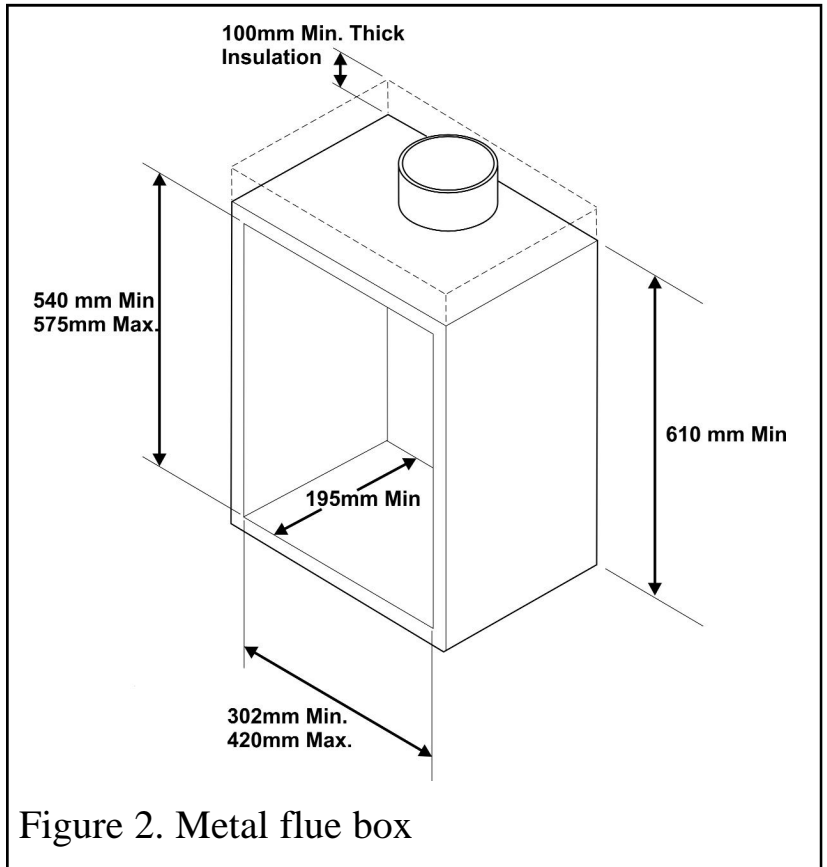

Figure 2. Metal flue box
3.2.2 To a fireplace incorporating a metal flue box conforming to BS715 with a minimum internal depth of 195mm. Incombustible mineral wool insulation of not less than 100mm thickness must be applied to the top surface of the firebox (See figure 2) and it must stand on a non-combustible hearth (See figure 1).
The whole of the top surface of the metal flue box must be covered with a minimum 100mm layer of mineral wool or equivalent insulation (See figure 2).